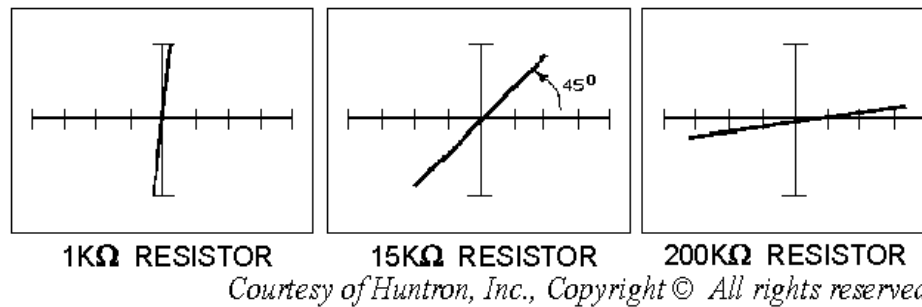

Figure 5-32.—Effects of resistance on the rotation angle in medium 2 range.
**MEDIUM 2 RANGE.**—The medium 2 range is designed to test for resistance values between 1KΩ and 200KΩ. Figure 5-32 shows the signatures for a 1KΩ resistor, a 15KΩ resistor, and a 200KΩ resistor in the medium 2 range. Resistance values that are smaller than 1KΩ will appear to be almost a vertical line. A 15KΩ resistor causes a change in the angle of rotation of 45°, whereas the display for a 200KΩ resistor shows only a slight rotation. When resistance values being tested are higher than 200KΩ, the displayed signature that they produce will have such a small rotation that it appears to be almost a horizontal line.